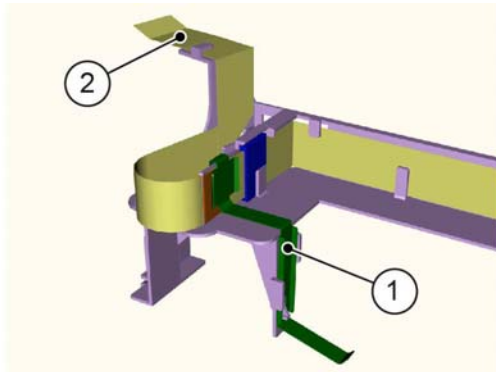

Figure 10 FFC cable removal
12. Remove the FFC cable, Figure 10:
- a. Remove the FFC conductor (1).
- b. Remove the FFC cable (2).